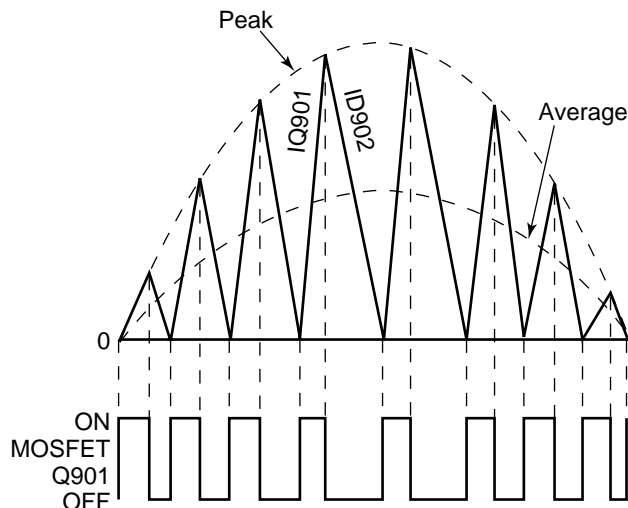

Figure 1. L903 coil current
- (1) The pulsating waveform rectified in the full wave mode by D901 is switched throughout the full cycle by the frequency of several tens kHz or more. Through this, the input current waveform becomes an average of the switching currents of the partial cycles, thus becoming the sine waveform in the macro. (See Fig.1)
- (2) For the AC input voltage, the AC input current of the sine wave type in the same phase flows to achieve the power circuit of improved power factor and reduced higher harmonic wave component.